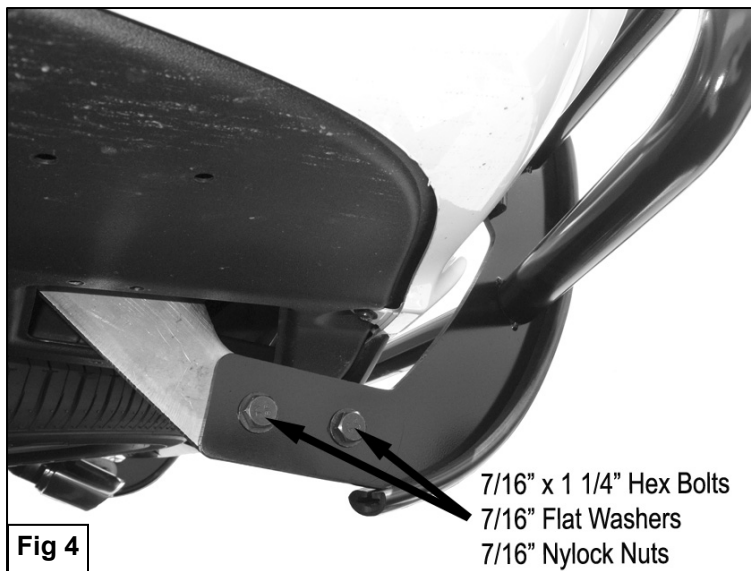

Fig 4
6. Position Rear Bumper Guard on the outside of Mounting Brackets. Attach Rear Bumper Guard to Mounting Brackets using the included (4) 12mm x 35mm Hex Head Bolts, (8) 12mm Flat Washers, (4) 12mm Lock Washers, and (4) 12mm Hex Nuts (**Figure 4**).